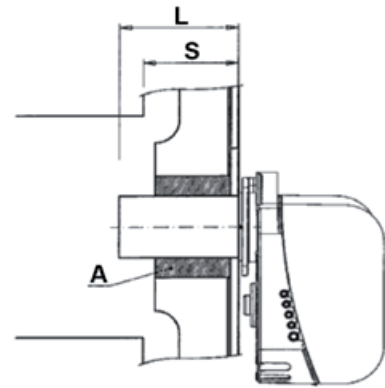

fig. 12
5.7 Assembling the burner (Fig. 12)